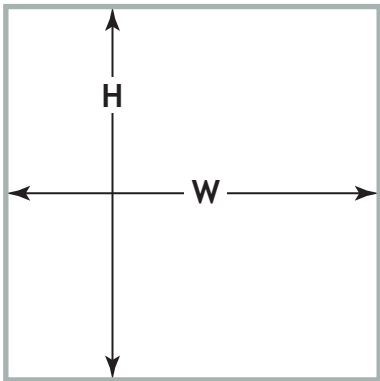

Figure 2-1: PM PLUS Panel Cutout
1. Make the panel cutout using the measurements in Figure 2-1 or Figure 2.-2 .